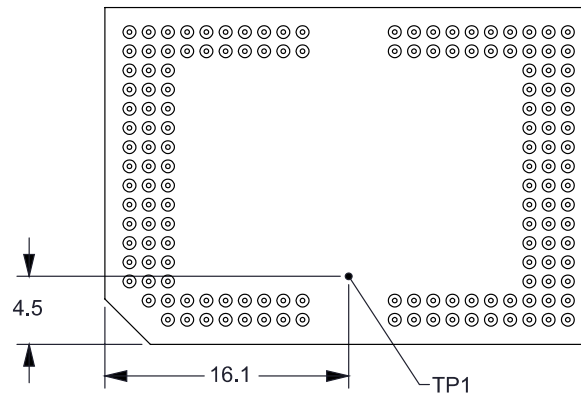

图 7-4. DMD Thermal Test Points
Relationship between array temperature and the reference ceramic temperature (thermocouple location TP1 in 图 7-4) is provided by the following equations:
- $T_{CERAMIC}$ = measured ceramic temperature, TP1 location in 图 7-4 (°C)
- Q_{ARRAY} = total power, electrical plus absorbed, on the DMD array (W)
- $Q_{ELECTRICAL}$ = nominal electrical power dissipation by the DMD (W)